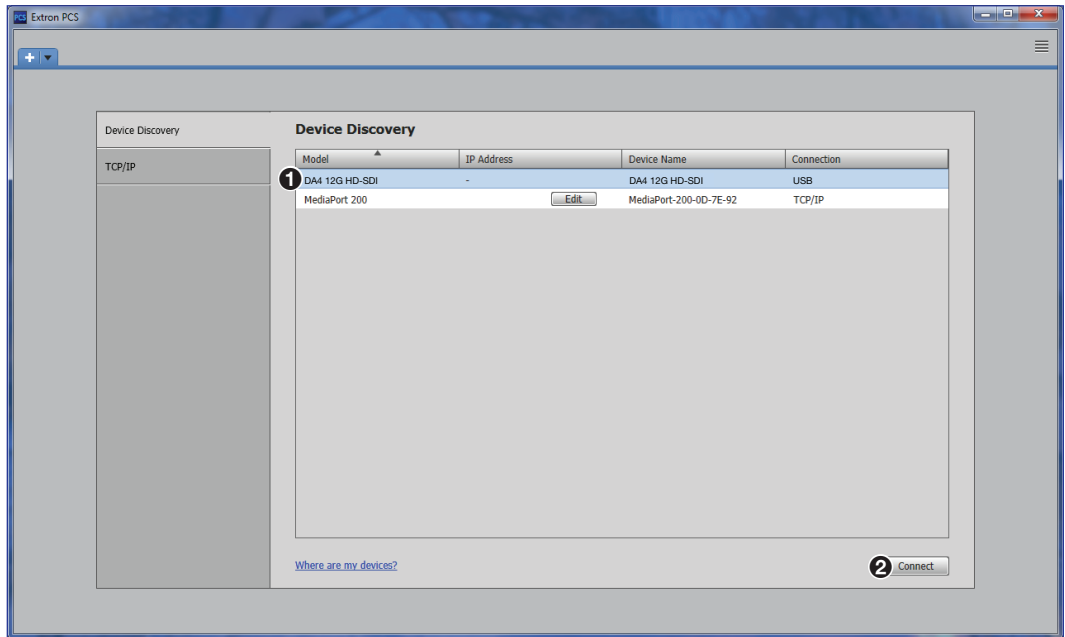

Figure 10. PCS Device Discovery Screen (GET NEW IMAGE)
3. Select the **DA4 12G HD-SDI** by clicking on it to highlight it in the list (see figure 10, **1**).